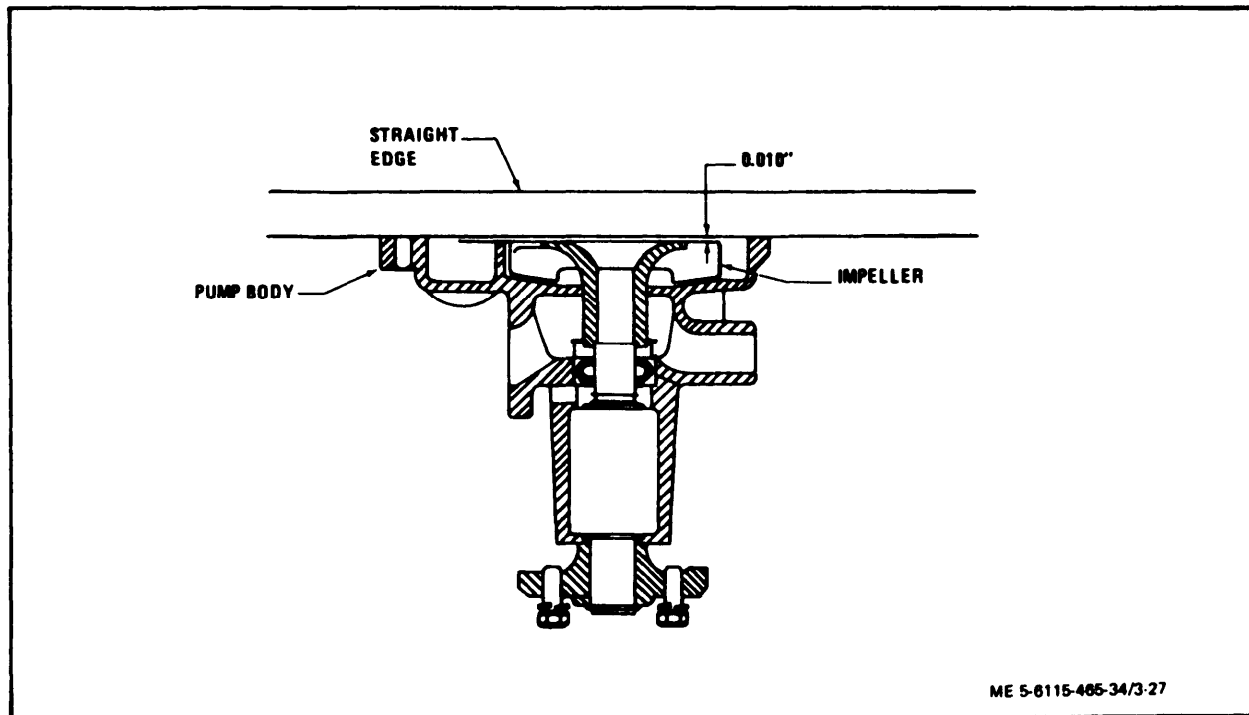

Figure 3-27. Checking Impeller to Cover Plate Clearance
(2) Press shaft, bearing and flinger assembly (9) into pump body and install retaining ring (2).
(3) Support pump on outer end of shaft and press impeller (10) onto shaft, bearing and flinger assembly to obtain 0.010 inch clearance between impeller and cover plate (figure 3-27).
(4) Install gasket (8) and cover plate (7) and secure with screws (3). Install bracket (6) with screw (4) and washer (5).
(5) Press pulley hub (1) onto shaft (9) until shaft is flush with front of pulley.